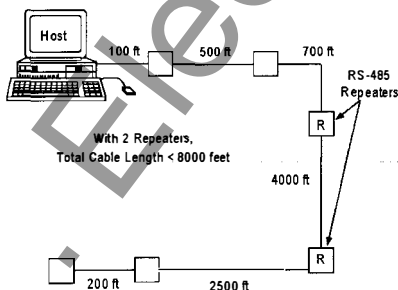

Figure 12. Network illustrating Modbus Rule 8.
8. RS-485 repeaters may be used to extend the range beyond 4000 feet. A single RS-485 repeater may be used to provide a 4000-foot extension, and each additional repeater in a sequence extends the range by another 4000 feet. Figure 12 illustrates this rule.